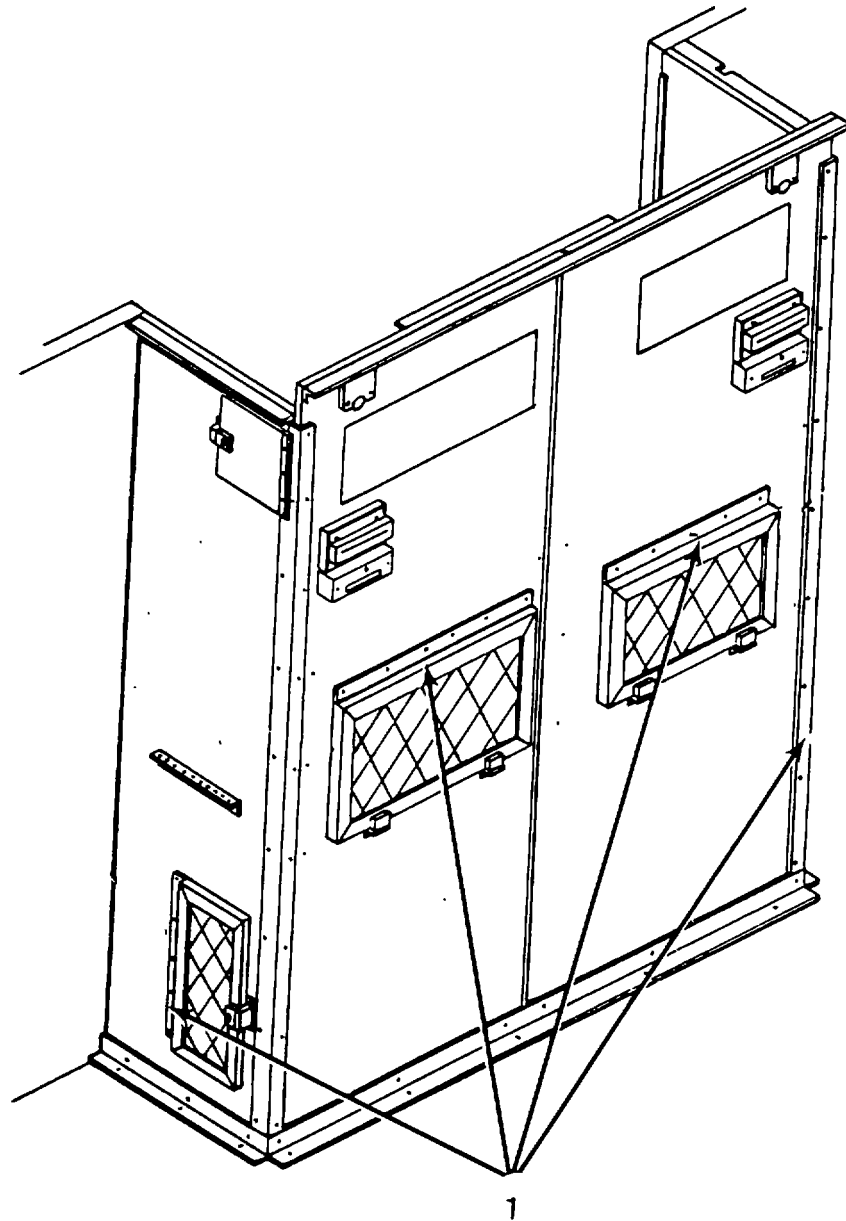

Figure 3-1. Air Conditioner Air Vent Doors Hinges.
3-3. **AIR CONDITIONERS (24,000 BTUH AND 36,000 BTUH).** Refer to figure 3-1. Lubricate hinges (1) on all air vent doors using lubricant (Appendix E, item 22). Wipe off excess lubricant. Refer to TM 5-4120-395-14&P for detailed lubrication instructions on the 24,000 BTUH Air Conditioner and to TM 5-4120-396-14&P for detailed lubrication instructions on the 36,000 BTUH Air Conditioner.